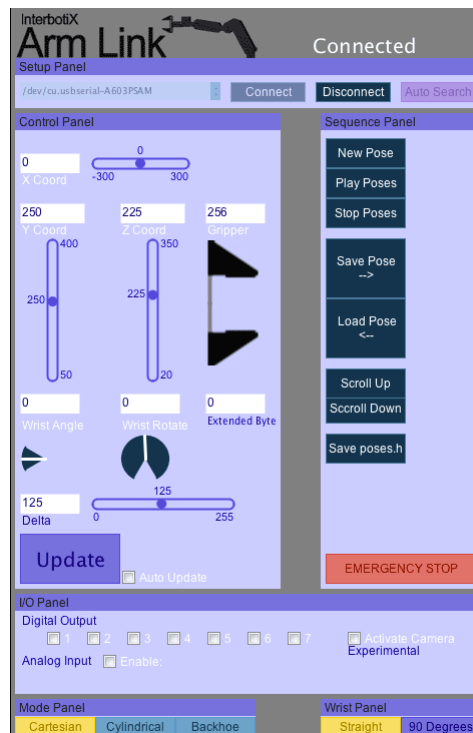

Figure 2.8: Arm Link Application Panel
5. On a successful connection, the arm will move from it's 'sleep' position to a 'home' position. This may take several seconds. Once the arm has moved to its home position and is ready for commands, the various panels will appear as shown in Figure 2.8. **Once the arm is connected to the software, don't try to move it by hand as each of the motors will exert torque.**